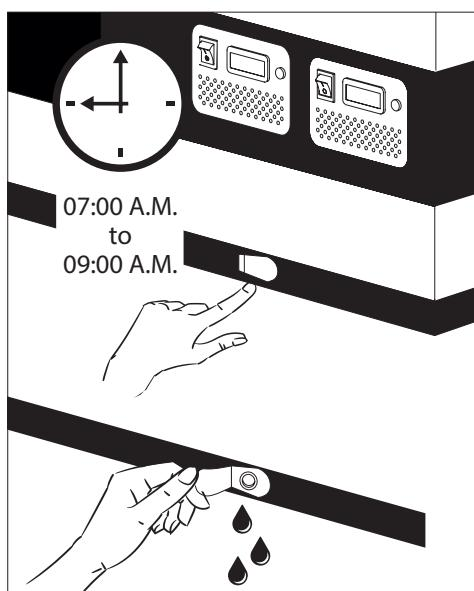

fig. 10
1. Disconnect the power supply by switching off the ON/OFF button. Important! ONLY switch off the power supply of the vaccine compartment. (See fig. 10)